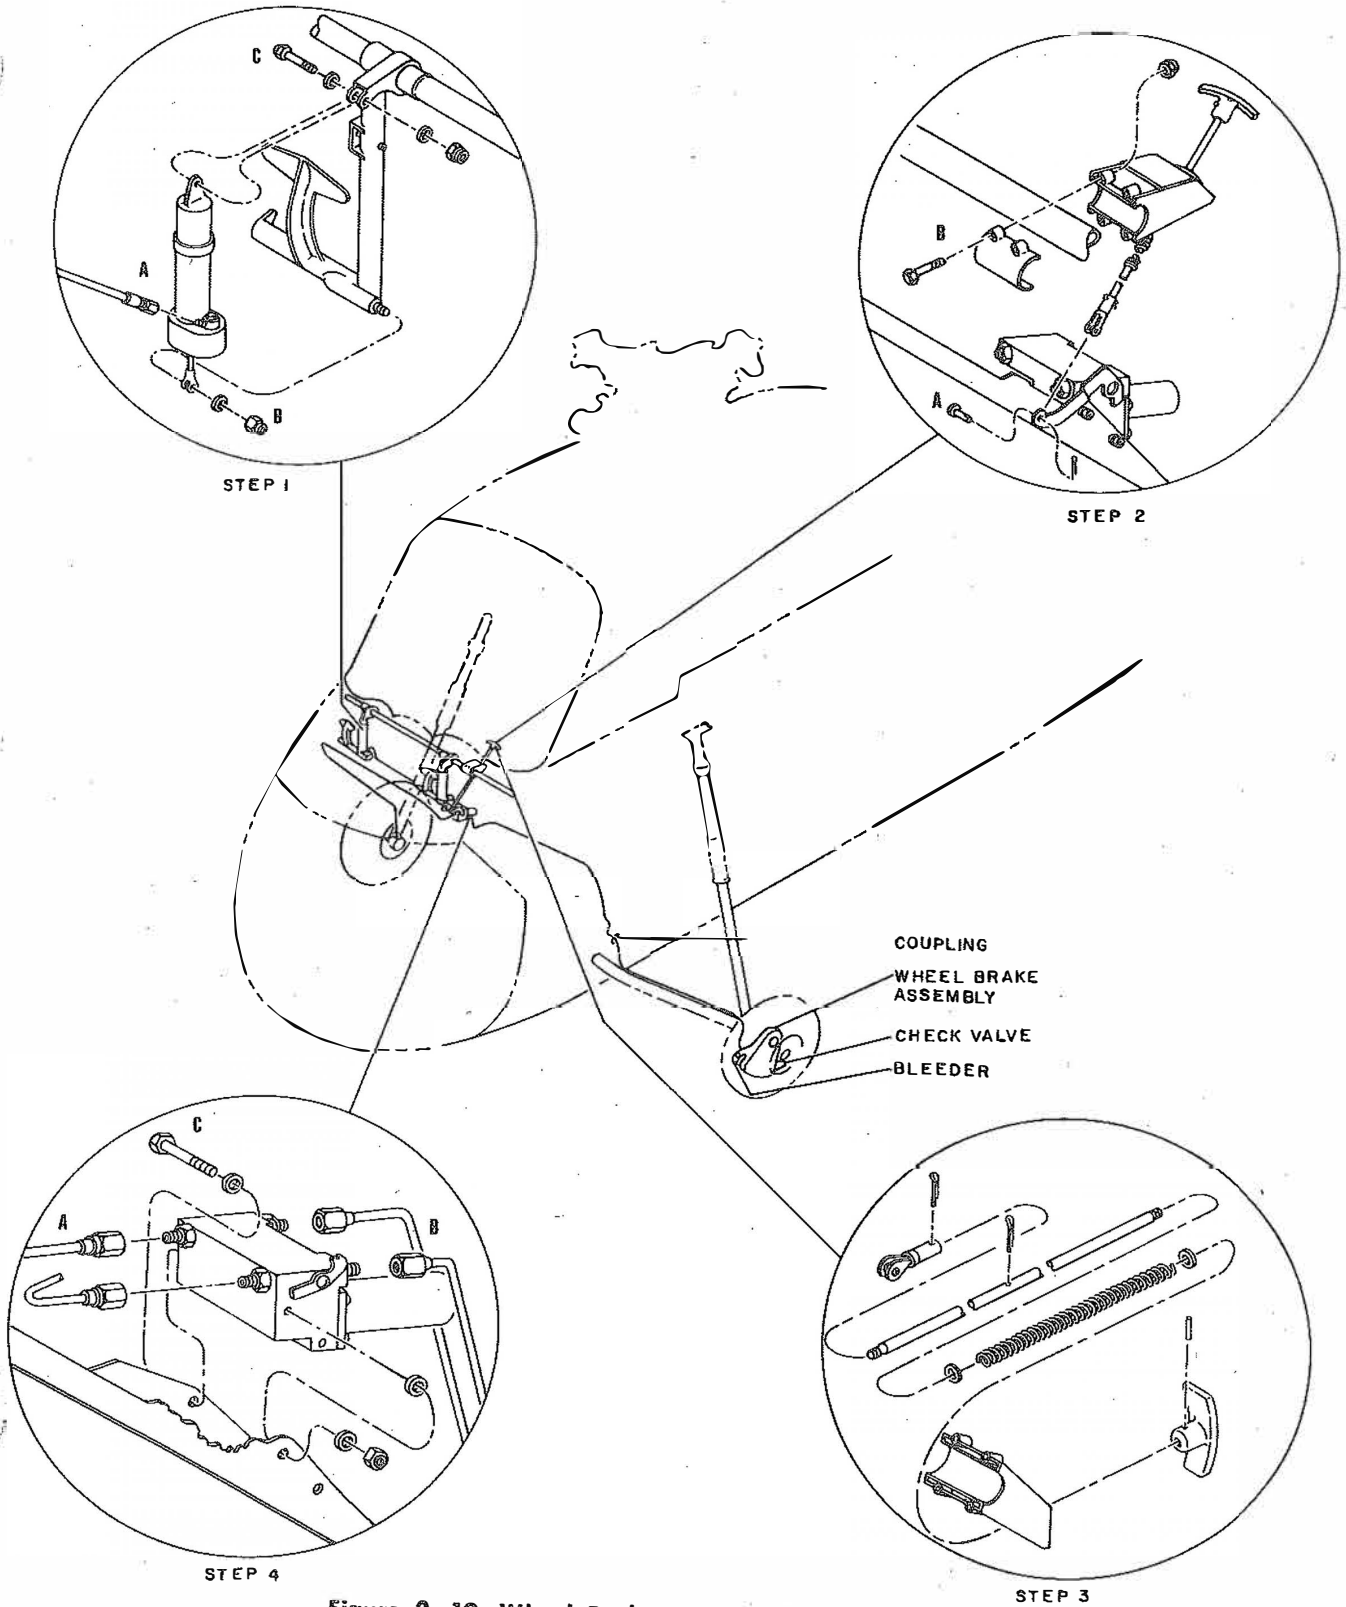

Figure 2-19. Wheel Brake System — Toe and Parking
2-255. DESCRIPTION. (See figure 2-19.) The wheel brake system consists primarily of the toe brake control on each of the pilot's tail rotor control pedals, a brake cylinder attached to each of the pilot's pedals, a dual parking brake valve and a handle, marked "PARKING BRAKE," on the observer's side of the cockpit, a wheel brake assembly at each main landing gear wheel, and interconnecting hydraulic tubing and hoses. A quick disconnect coupling for the hydraulic line to each wheel brake is provided where the line passes through the side of the fuselage. Each main wheel can be braked separately. Depressing the toe brake control actuates the piston in the brake cylinder to apply the wheel brake. Depressing both toe brake controls and pulling out the "PARKING BRAKE" handle closes the dual parking brake valve and locks both wheel brakes. Depressing both brake pedals or the right pedal only will release the parking brakes. The parking brake valve incorporates a dual temperature compensator which provides for independent brake line operation. Access to the system is gained through the cockpit and through the clutch compartment.
## 2-257. REMOVAL. (See figure 2-19.)
2-259. INSTALLATION. (See figure 2-19.)
- c. Secure the valve to its bracket with the bolts, washers and nuts at "C" (step 4, figure 2-19). Connect the hydraulic lines to the valve at "A" and "B" (step 4).